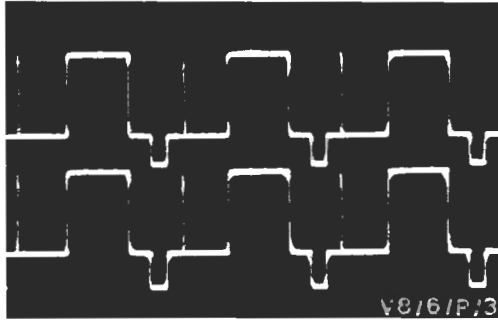

Fig. 6.1. Measurement of Signal Amplitude
2. Feed the waveform to be measured to the input plug, C, of the unit. Connect the output plug, B, to an oscilloscope which is terminated in 75 ohms and trigger the oscilloscope from the waveform to be measured. The resultant display on the oscilloscope will be of the form shown in Fig. 6.1, with the waveform to be measured riding on the calibrating waveform. The actual calibrating waveform cannot be seen in the photograph because of the long exposure time of the film.